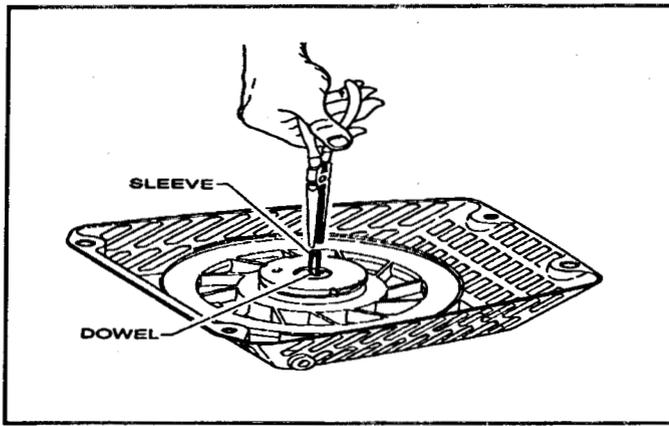

Figure 105
1. Make sure the alignment pin is installed in the drilled hole in the rewind starter mounting screw. See Figure 105.